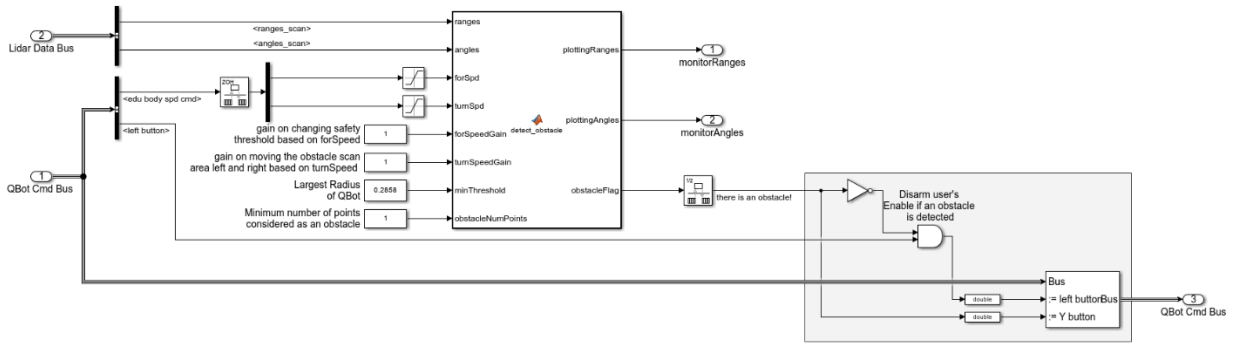

Figure 5. Obstacle Detection via Lidar block
1. Go back to the main Simulink model and open **Obstacle Detection via Lidar** subsystem, as shown in Figure 5. This subsystem uses the LiDAR measurement to determine when the QBot should stop to avoid collision with an obstacle. In this lab, you will implement a simple obstacle detection algorithm using the **MATLAB Function** block labeled **detect_obstacle**.